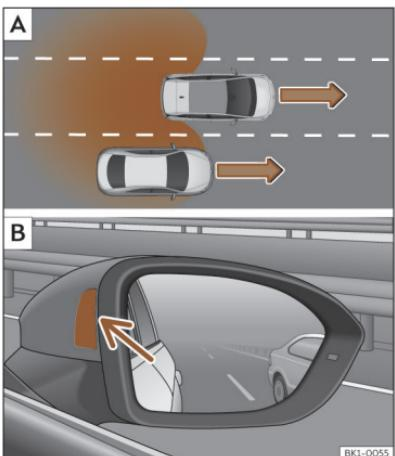

Fig. 140 Schematic diagram: **A**
(arrow) or >>> **Fig. 140 B** (arrow):
- When passing another vehicle >>> **Fig. 140 A** with a speed differential of approx. 10 km/h (6 mph). If the vehicle is passing at a considerably higher speed, no indication will be displayed.